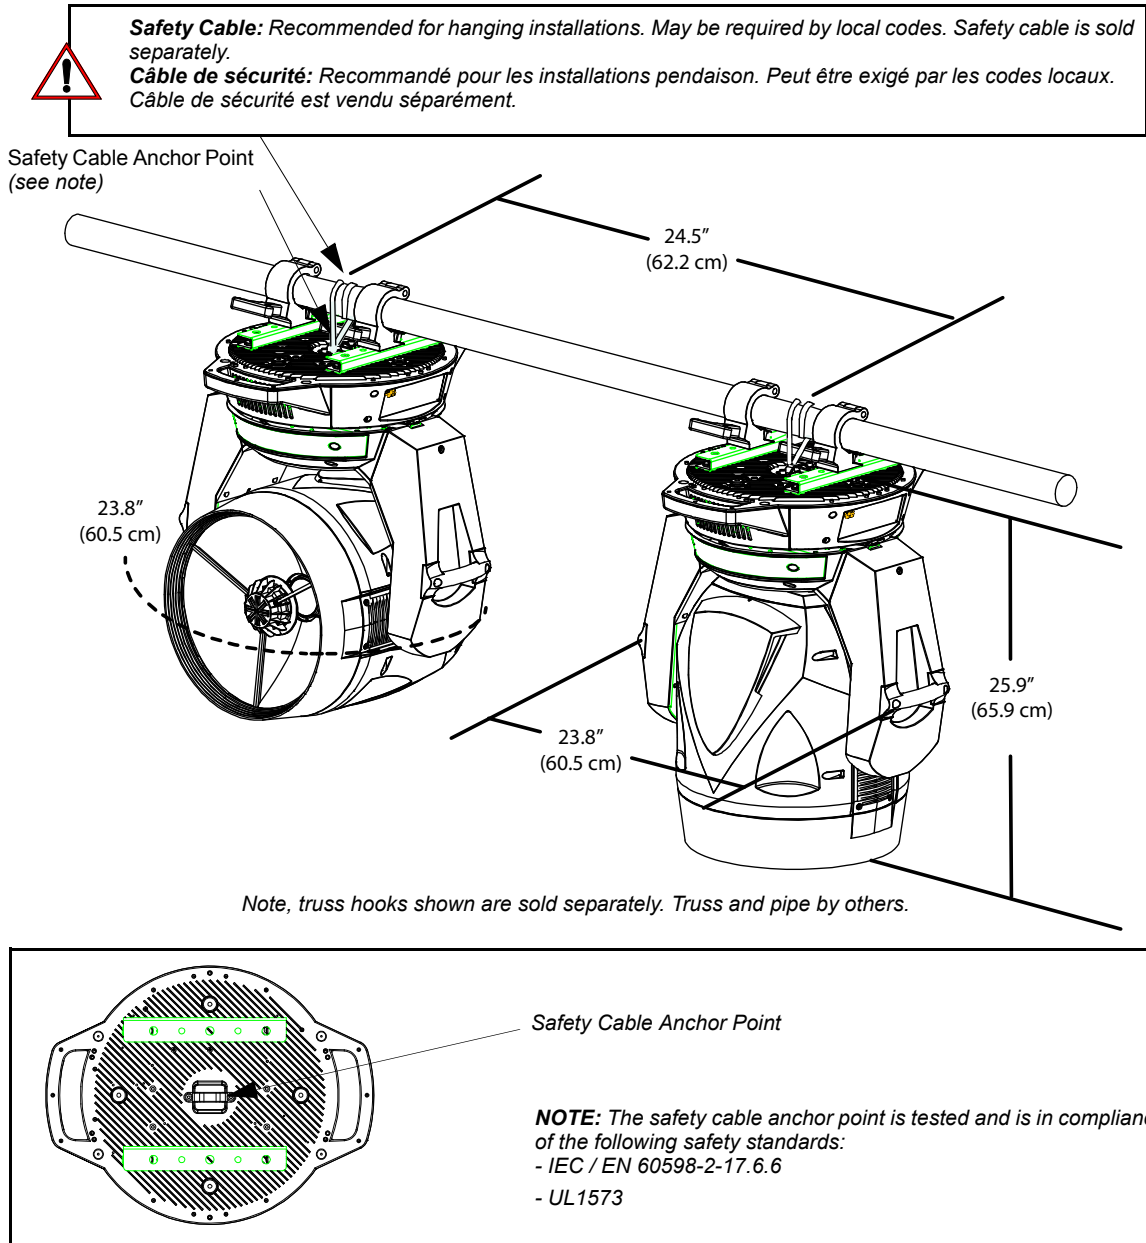

Figure 2-10: Safety Cable Installation / Luminaire Hanging
- Step 3. Attach safety cable (as required) as follows (refer to Figure 2-10 on page 26):